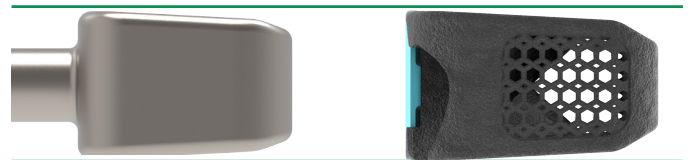

Figure 5a
- All labeled heights are measured from the area representing the highest point on the anterior wall of the Cage. Trials are line to line with the corresponding Cage (Figure 5a).